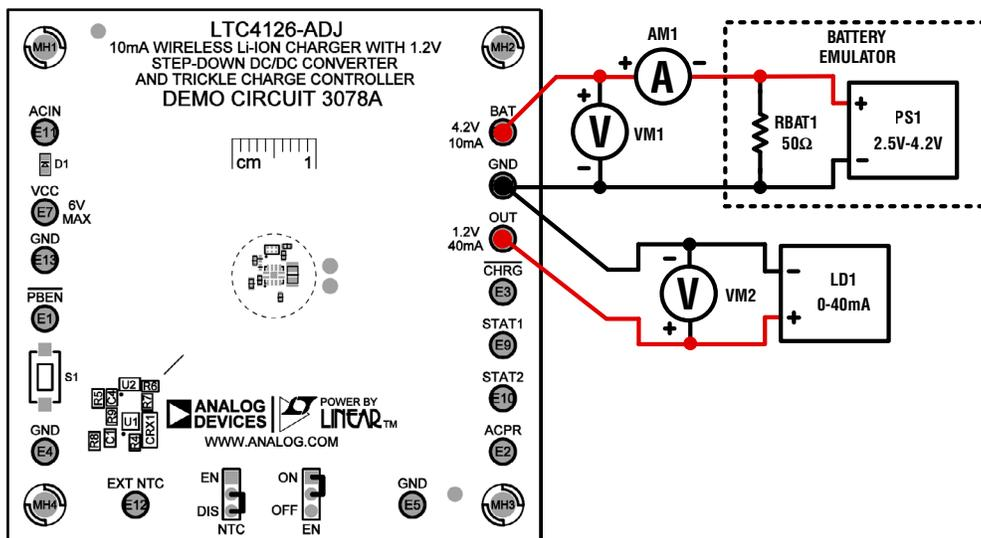

Figure 9. Test Setup for DC3078A Receiver
Refer to Figure 9 and Figure 11 for the proper measurement equipment setup and follow the procedure below:
1. Connect a voltage source PS1 and a 50Ω resistor RBAT1 between the BAT and GND turrets of the DC3078A as shown in Figure 9. PS1 and RBAT1 make up the battery emulator. Typical power supply cannot sink current. By adding a resistor across the power supply inputs that draws more current than the maximum battery charge current, the power supply only sources current at all time. Connect a voltmeter VM1 to measure the BAT pin to GND voltage. Connect an ammeter AM1 to measure the charge current to the battery emulator.